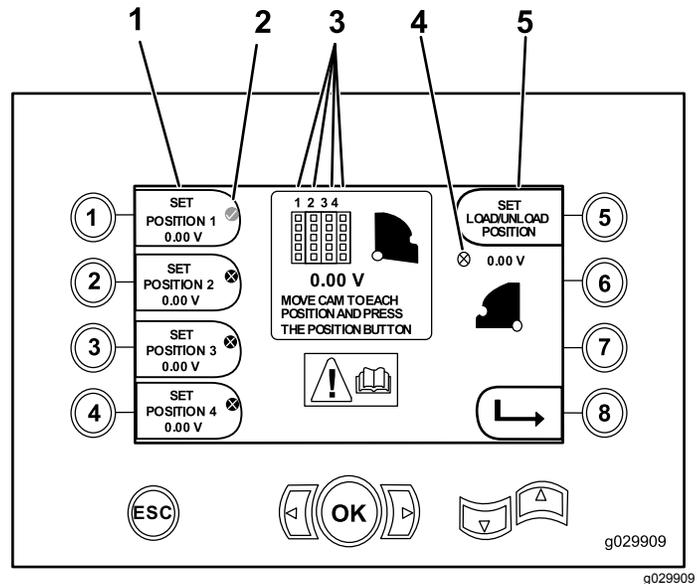

Figure 18
- Button 1—Set position 1 (Figure 18)
- Button 2—Set position 2 (Figure 18)
- Button 3—Set position 3 (Figure 18)
- Button 4—Set position 4 (Figure 18)
To set the load or unload position, push button 5 (Figure 18).